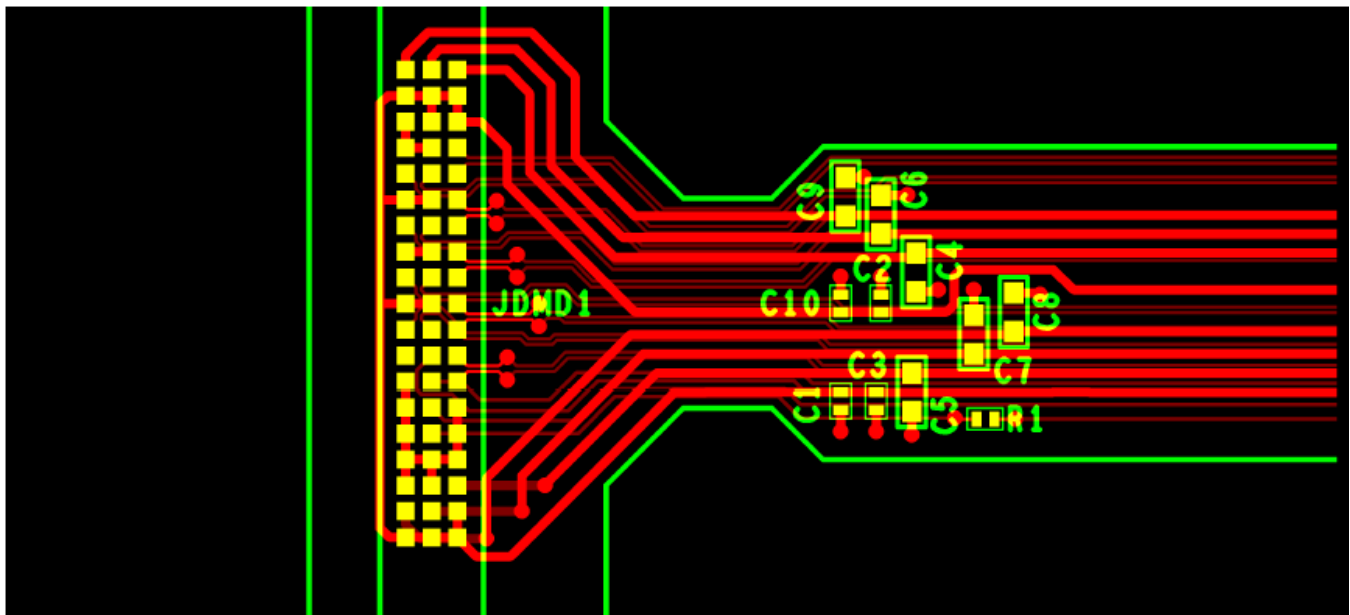

图 15. Power Supply Connections
- Minimize vias, layer changes, and turns for the HS bus signals. See 图 15.
- Minimum of two 100-nF decoupling capacitor close to VBIAS. Capacitor C6 and C7 in 图 15.
- Minimum of two 100-nF decoupling capacitor close to VRST. Capacitor C9 and C8 in 图 15.
- Minimum of two 220-nF decoupling capacitor close to VOFS. Capacitor C5 and C4 in 图 15.
- Minimum of four 100-nF decoupling capacitor close to Vcci and Vcc. Capacitor C1, C2, C3, and C10 in 图 15.